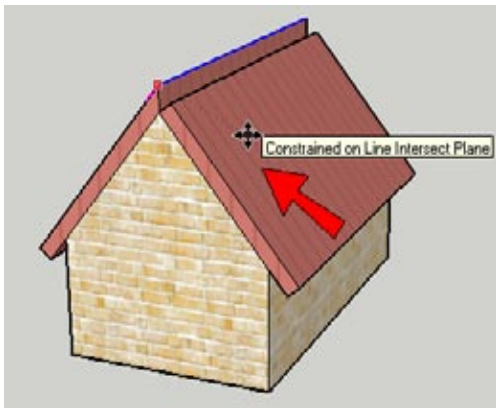

Figure 5-13
14. Press Shift to lock the magenta inference, and click anywhere on the opposite sloped roof face. This moves the edge so that both constraints are satisfied—the new edge is still parallel to the edge below, and it lies on the extension of the opposite roof face (Figure 5-13).